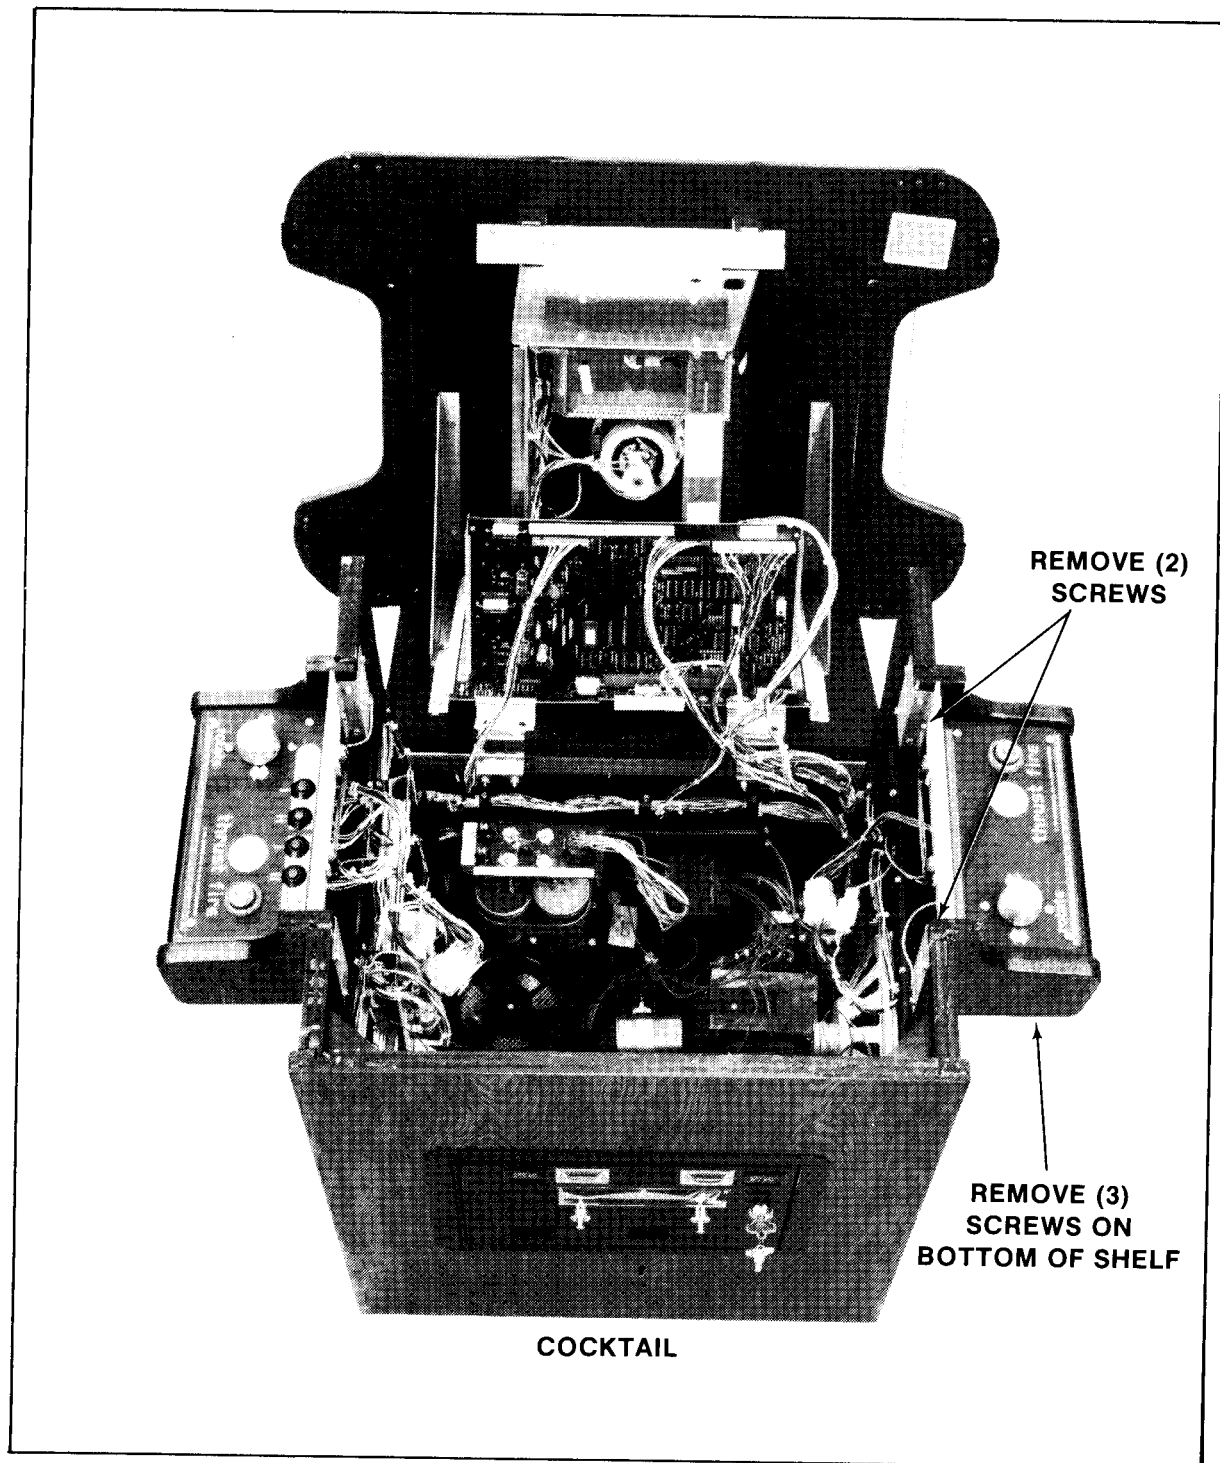

FIGURE 19
- iv. Remove the screws which secure the control panel in place. See Figure 19.